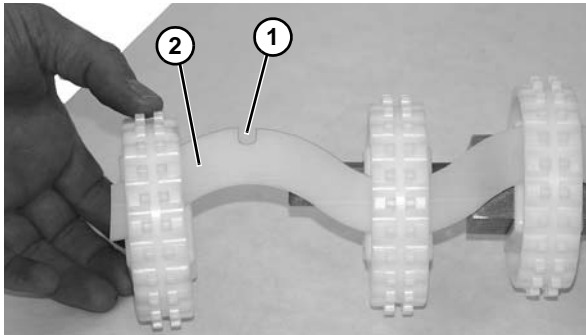

**Figure 71**
13. Slide entire sprocket assembly slightly outward, and remove the first sprocket (**Figure 71, item 1**) off the drive spindle (**Figure 71, item 2**) and alignment bar (**Figure 71, item 3**). Inspect and replace if worn.
14. Remove remaining sprockets (**Figure 71, item 4**) off the alignment bar as you slide entire assembly off the drive spindle.
16. Install second sprocket and subsequent sprockets (**Figure 71, item 4**) one by one, while sliding entire assembly onto alignment bar (**Figure 71, item 2**) and spindle (**Figure 71, item 3**), making certain each sprocket is locked into retaining tab cut out (**Figure 72, item 1**) on alignment bar (**Figure 72, item 2**).